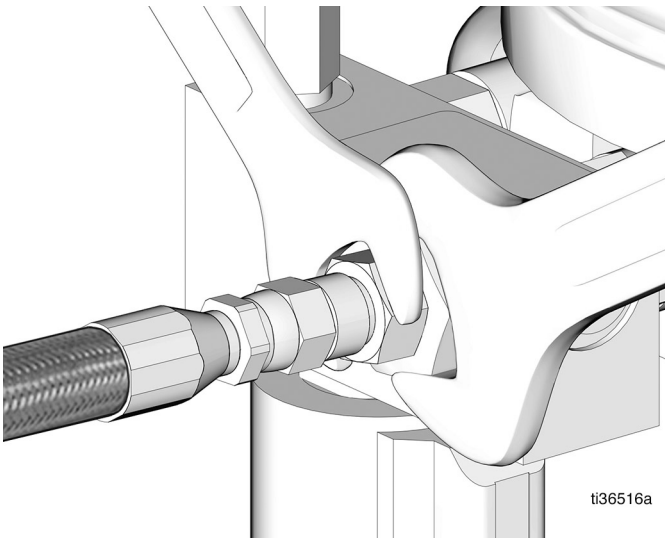

FIG. 14
10. Reconnect the main line to the pump outlet (FIG. 14).